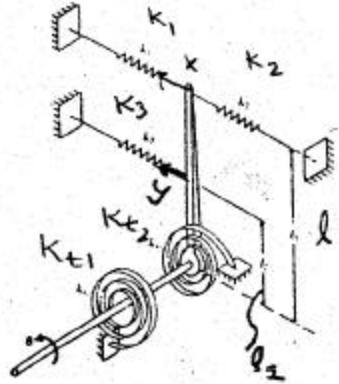

Figure 4
- b. Use the concept of equivalent potential energy to find the equivalent torsional stiffness with respect to θ for the systems shown in Figures 4 and 5.
b. i) Figure 4